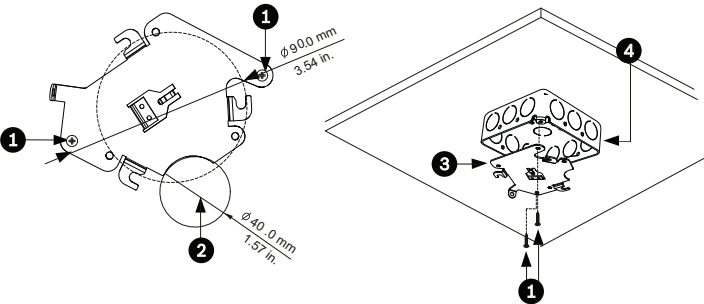

Figure 4.3 Install the Mounting Plate
- 3. Secure the mounting plate to the junction box with the user supplied hardware (see *Figure 4.3*). Proceed to *Section 4.1.3 Installing the Camera to the Mounting Plate*, page 19.
- 1. Route wires on side of mounting plate with crescent shaped cut-out (Ref. #2 *Figure 4.3*).